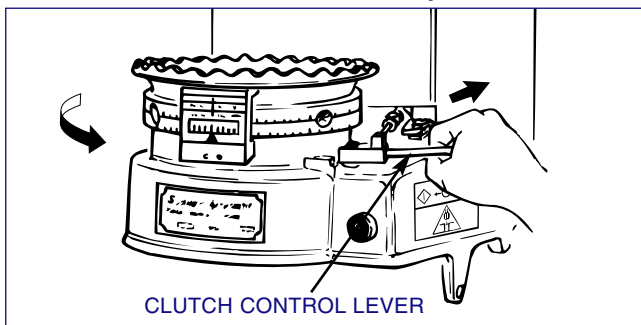

FIGURE 3-29, Clutch Control Lever
- With the tool in bore and the Lift Lever lowered, push the Clutch Control Lever rearward until the motor on light illuminates (*see Figure 3-29*).
6. If necessary use the Clutch Control Lever to slowly stroke the machine until the stroke adjustment is easily seen (*refer to Figure 3-29*).